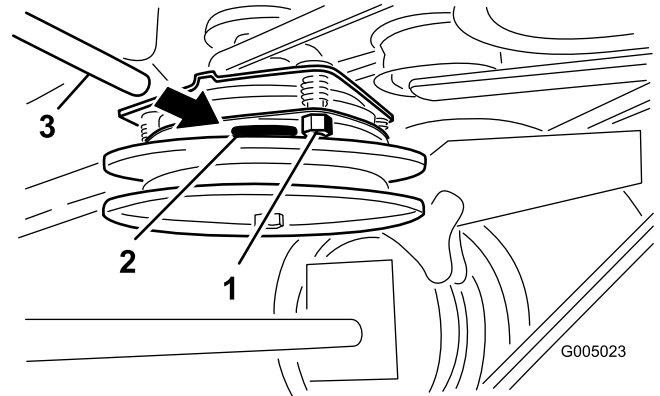

Figure 60
2. Tighten the lock nuts until there is slight binding on the feeler gauge but it can be moved easily within the air gap (Figure 60).